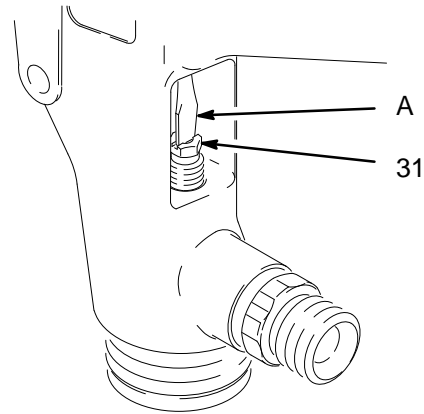

Fig. 36 _____ 02762
2. Place the packing adjustment nut (31) over the packing assembly and start the threads into the gun, then remove the needle.
3. Insert a thin-blade screw driver (A) through the back of the gun and into the packing adjustment nut (31). See Fig. 36. Do not nick or damage parts with the tool. Turn the screw with the screw driver (about 3 turns); the packing will still be loose.